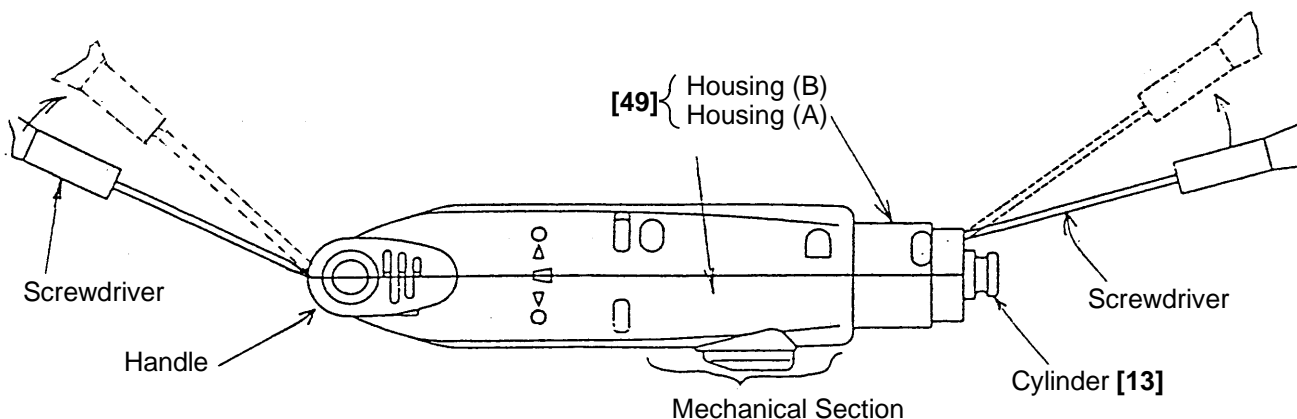

Fig. 2
As shown in Fig. 2, insert screwdrivers into the portions where Housing (A) and Housing (B) are joined at the Handle end and at the Chuck end, and pry upward gently to separate them.